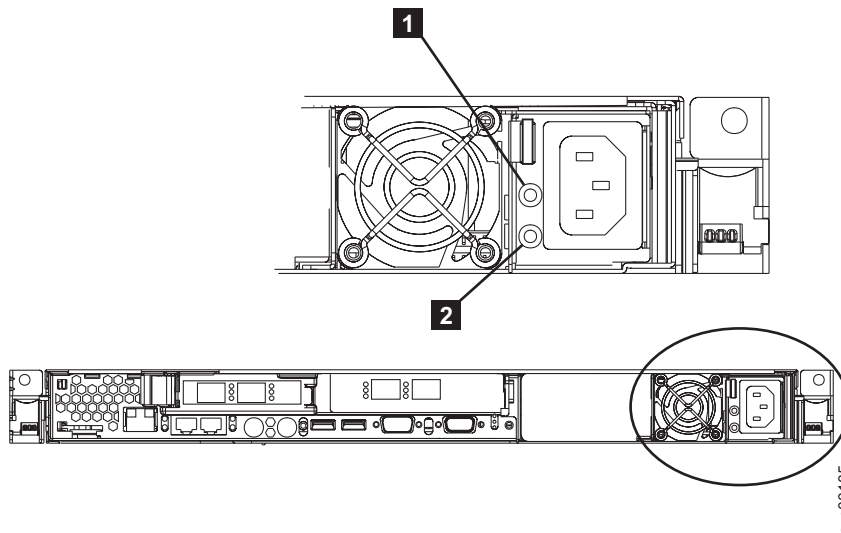

Figure 133. AC and DC power LEDs
5. Make sure that the power-supply fan starts and the AC power LED **1** and DC power LED **2** on the power supply are lit, indicating that the power supply is operating correctly. See Figure 133.